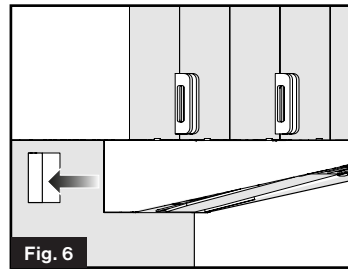
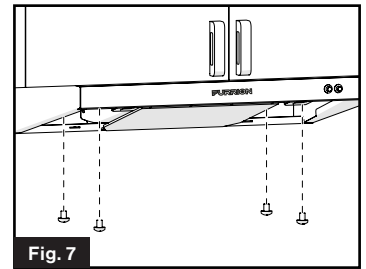

Fig. 6
Fig. 7
6. Insert vent collar at back of the range hood into the cutout area and fix the range hood onto the top cabinet with the four screws provided. (Fig. 6 and Fig. 7)